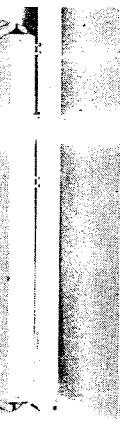

Fig. 5
4. Take out the table clamps from the accessory box. Raise the front of the knitter, insert the head of screw (B) into the aperture (C). Press upwards so that the head of screw (B) is in position (D) and fasten the knob (A). Fasten the knitter to the table by the tightening table clamps. It is essential that boss (E) fits snugly into aperture (F). (See Fig. 5, 6)